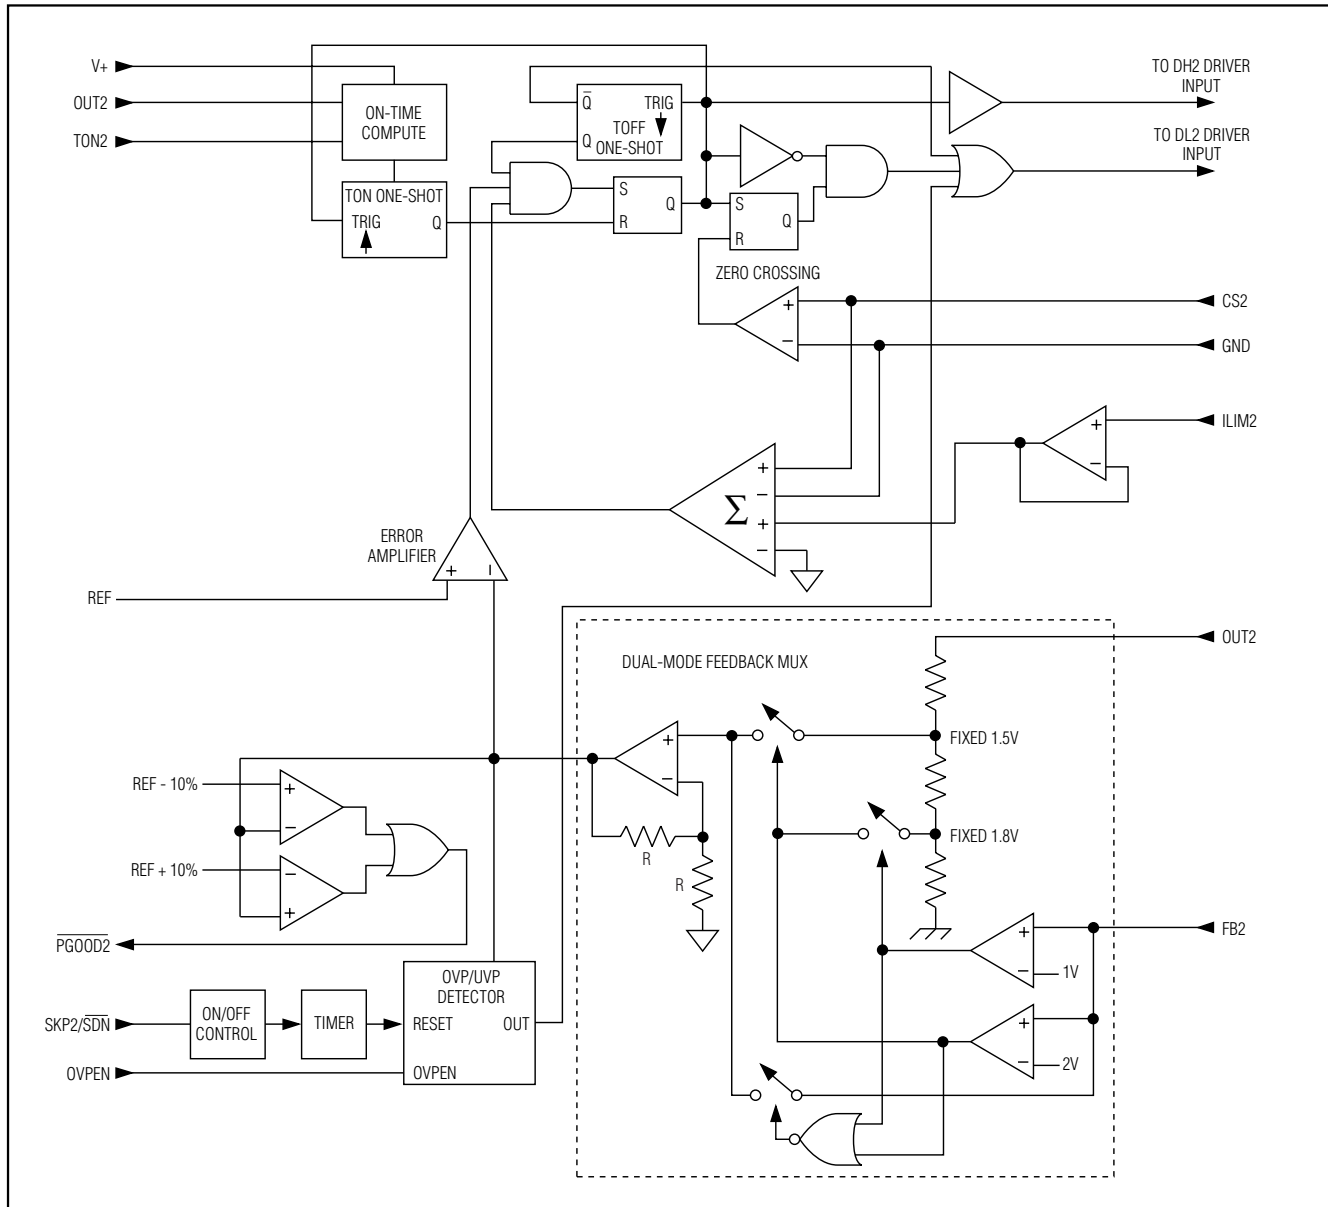

Figure 5. BUCK2 PWM Control Diagram
BUCK2 uses the voltage at the CS2 pin to estimate the inductor current and determine the zero crossing for controlling pulse-skipping operation (Figure 5). Connect CS2 to the current-sense resistor (Figure 1) for the best possible current-limit accuracy. However, the improved accuracy is achieved at the expense of the additional power loss in the sense resistor. CS2 can be connected to LX2 for lossless current sensing. In this case, the trade-off is that the current limit becomes dependent on the low-side MOSFET's RDS(ON) with its inherent inaccuracies and thermal drift.